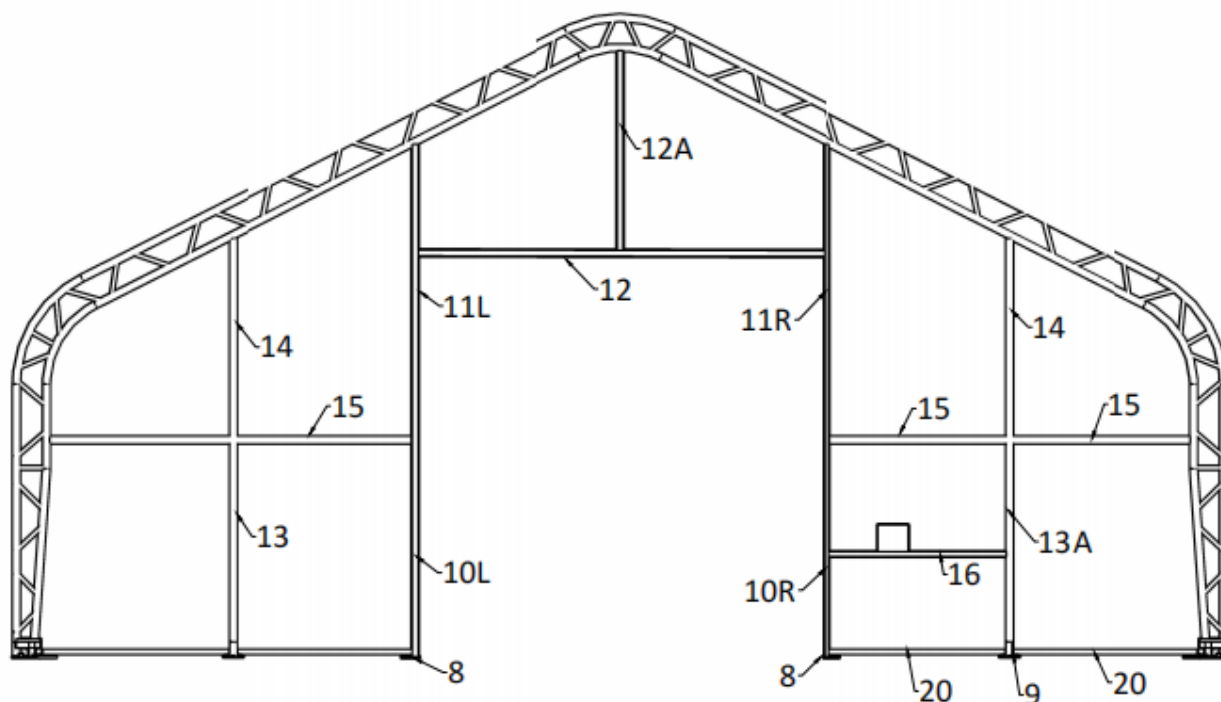

Figure 7
1. After assemble the arches, please assemble the front and back wall as the picture (Figure 7&8) shows above.